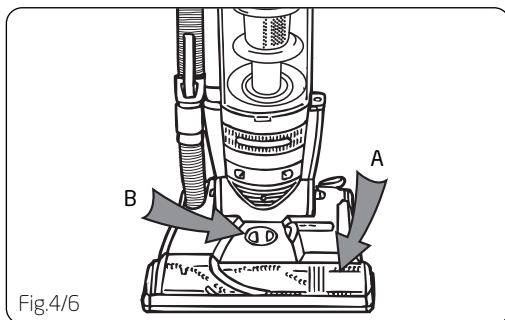

Fig.4/6
The cleaning of carpet and rugs takes place at the nozzle (A). When it is necessary to raise and lower the nozzle for various carpet pile heights, turn the nozzle control knob (B) to the desired setting (Fig.4/6).